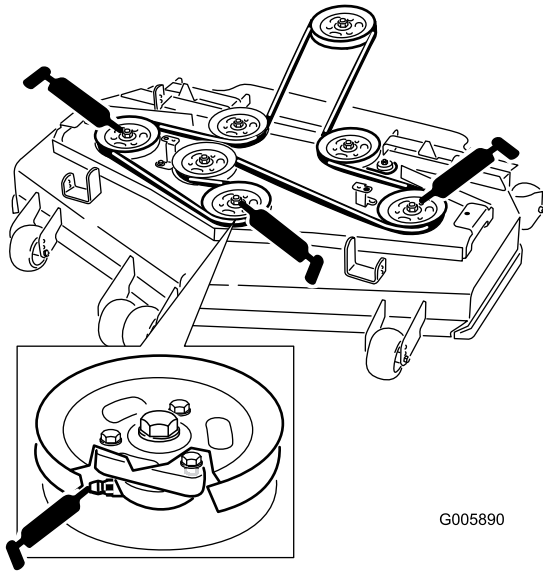

Figure 30
4. Grease the three spindle bearings under the pulleys until grease comes out the lower seals (Figure 30).
5. Grease the fittings on the push arms (Figure 30).